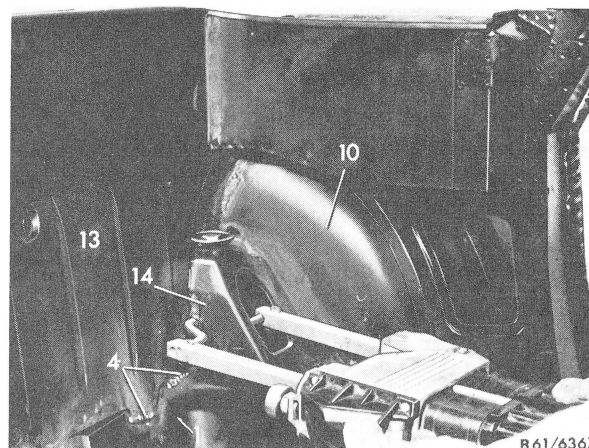

Fig. 9
25 Spot weld rear wall (13) to shock absorber bracket (14) (Fig. 9).
26 Connect rear wall (13) to rear floor (1) by bead welding (4) (Fig. 9).